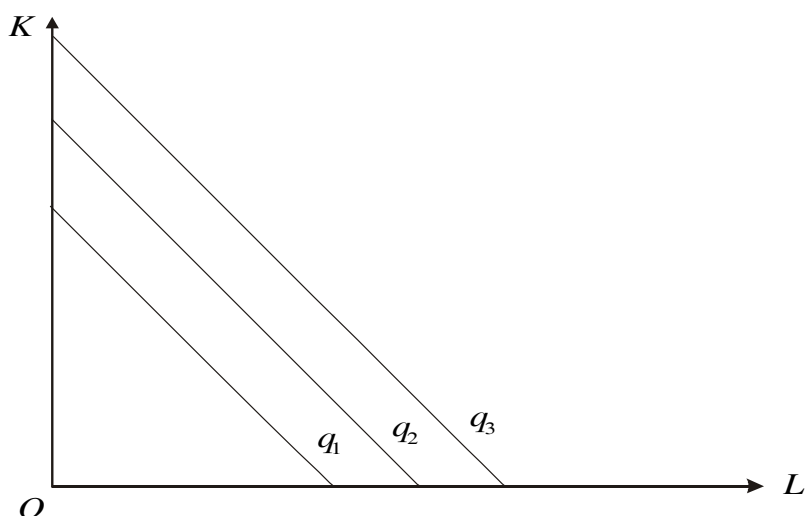

Fig. 4.14: Linear Iso-quant
- 1) **Linear:** This type of iso-quant assumes perfect substitutability between the factors of production. A given output quantity may be produced by using either only L or only K or by a combination of both (see Figure 4.14).